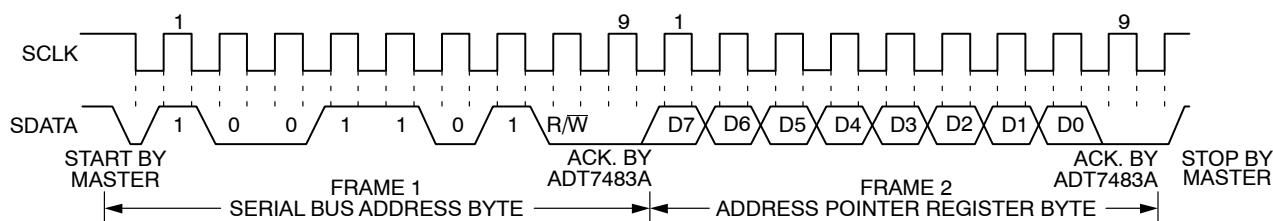
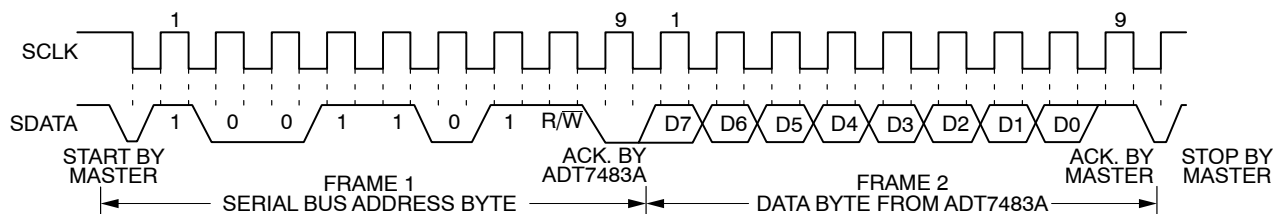

Figure 16. Writing to the Address Pointer Register Only
Figure 17. Reading Data from a Previously Selected Register
1. If the address pointer register value of the ADT7483A is unknown or not the desired value, it is first necessary to set it to the correct value before data can be read from the desired data register. This is done by performing a write to the ADT7483A as before, but only the data byte containing the register read address is sent, as data is not to be written to the register (see Figure 16). A read operation is then performed consisting of the serial bus address, R/W bit set to 1, followed by the data byte read from the data register (see Figure 17).
2. If the address pointer register is known to be already at the desired address, data can be read from the corresponding data register without first writing to the address pointer register and the bus transaction shown in Figure 16 can be omitted.